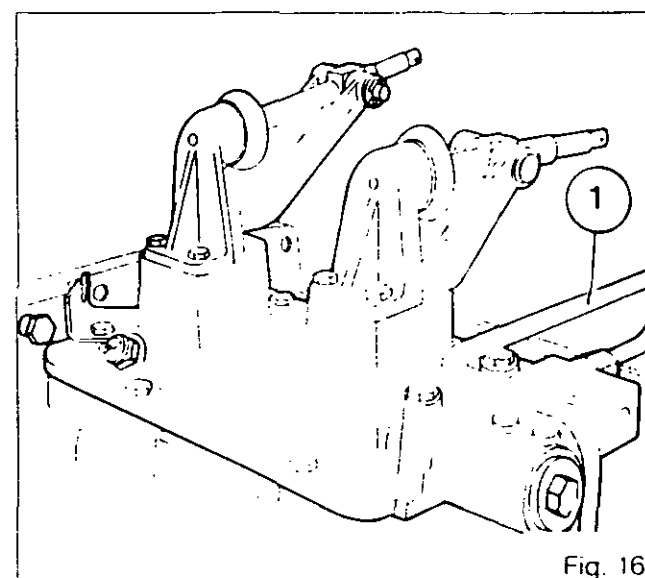

Fig. 16
- 29. Disconnect the pressure gauge and fit the supply pipe (1) for the A/B ranges (Fig. 16)